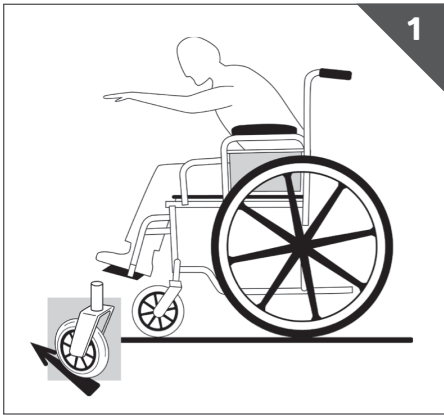

Figure 1
- When reaching forward make sure the front casters are pointing in a forward position (Figure 1). This extends the wheel base and will help stabilize the chair.